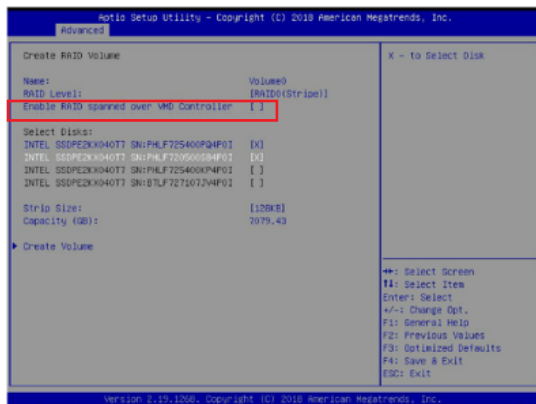

Figure 6-2. Created Volume *without* enabling RAID spanned over VMD controller
8. Switch to **Advanced > Intel(R) Virtual RAID on CPU > All Intel VMD Controllers > Create RAID Volume**.
11. If cross-controller RAID is required, select **Enable RAID spanned over VMD Controller** as shown in Figure 6-2.